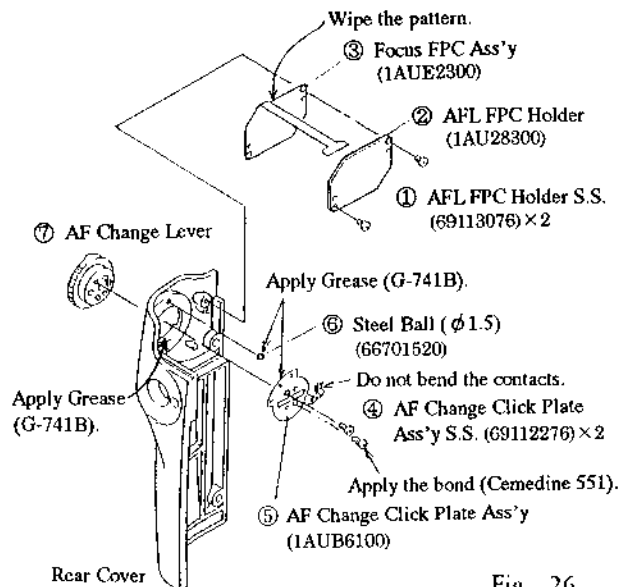

Fig. 26
- 1) Remove the parts in the numerical order of ① to ⑦ as shown in Fig. 26.